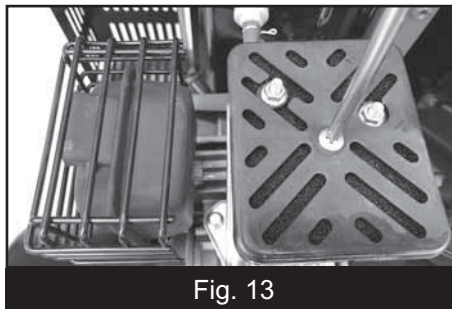

Fig. 13
1. Using a screwdriver unscrew the air filter connection screw located in the middle of the air filter cover. Remove the cover and set aside (Fig.13).